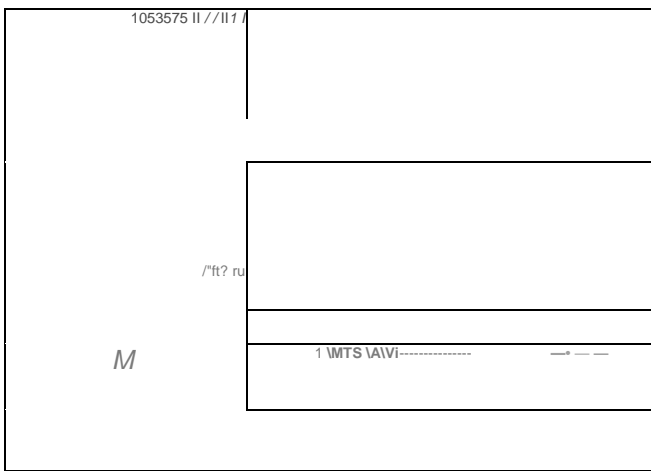

Figure 7-150. Center Fold Connectors
- a. See Figure 7-150. Disconnect connectors.